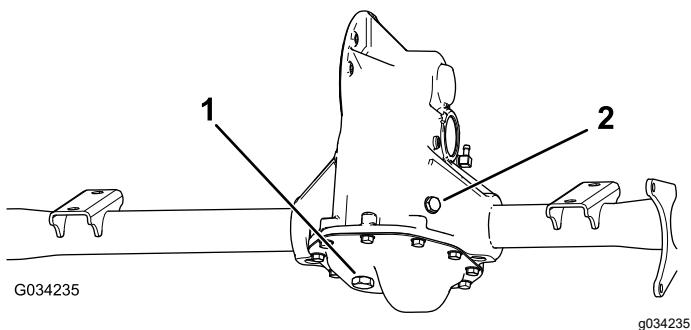

Figure 49
1. Align a drain pan under the drain plug (Figure 49).
2. Remove the fill plug and the seal (Figure 49).
3. Remove the drain plug and the seal, and allow the fluid to drain completely (Figure 49).